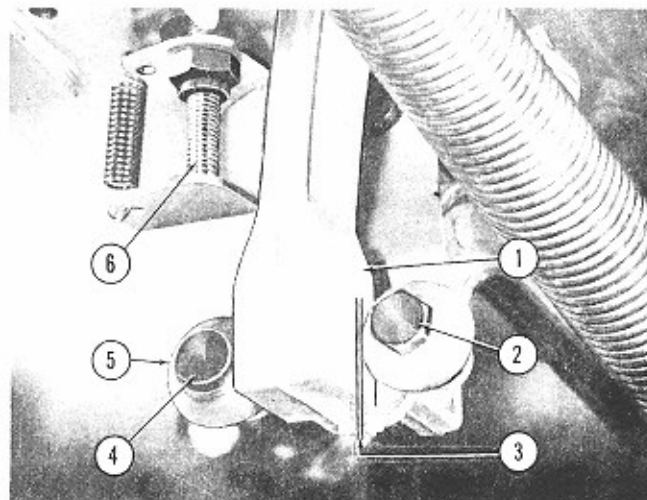
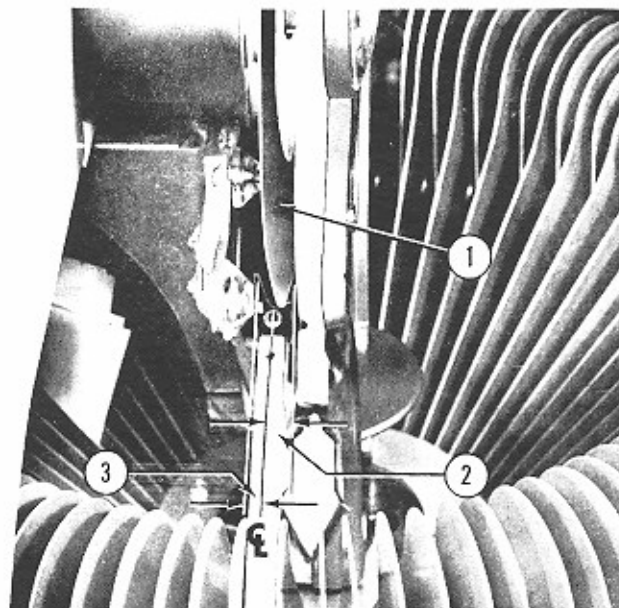

Fig. 66. RECORD LIFT ARM CENTERING ADJUSTMENTS
Fig. 67. RECORD LIFT ARM CENTERING ADJUSTMENT
1. Record Lift Arm Centering Adjustment. (Figs. 66 and 67)
(1) With the ramp (Item 1, Fig. 66) on the lower end of the record lift arm between the two rollers, in the play position, set and tighten the eccentric stud to provide free passage of the ramp between the rollers with .005" max. clearance between the ramp and the rollers.
(2) With a record clamped on the turntable and the corresponding lift arm in its raised position, (Fig. 67) set the adjusting screw (Item 6, Fig. 66) for the centering roller and bracket assembly so that the guide tips of the record lift arm are equally spaced on either side of the record as shown in Figure 67.